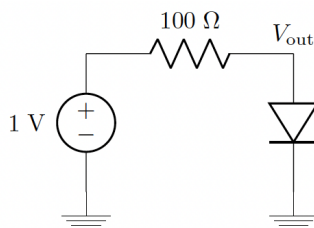

Figure 3: Diode circuit.
- P4. For the diode circuit in Figure 3 (You do not need to know what a diode is to complete this section):